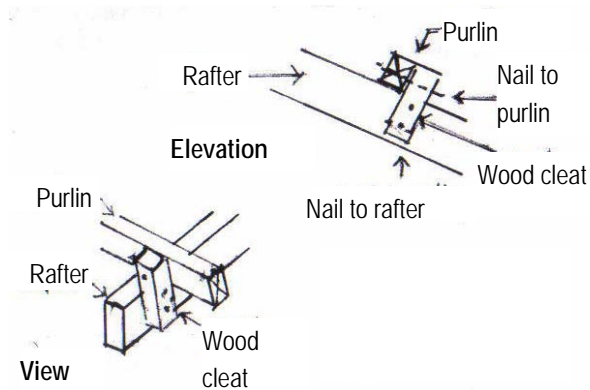

Fig 32- **Details showing anchoring of purlin to rafter**
- Made sure that purlins are securely anchored to rafters (See fig. 32)